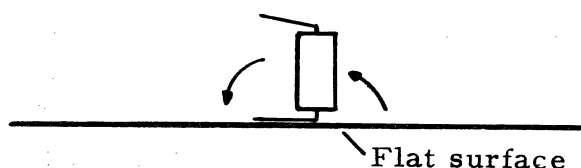

Figure 5 - IC Pin Alignment
- If the IC leads are wider than the IC socket holes making insertion difficult, close the rows of pins slightly until they are aligned with the IC socket holes. Close the row of pins uniformly by placing the IC on its side on a flat surface, so that one row of pins is flat against the surface (Figure 5).